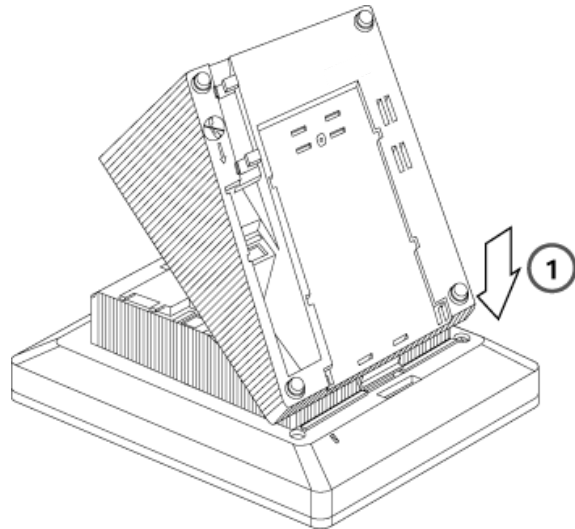

Figure 3-42. Replacing the Deskstand
1. Place the tab on the narrow edge of the deskstand, into the locating slot on the telephone base as shown in item 1 in Figure 3-42.